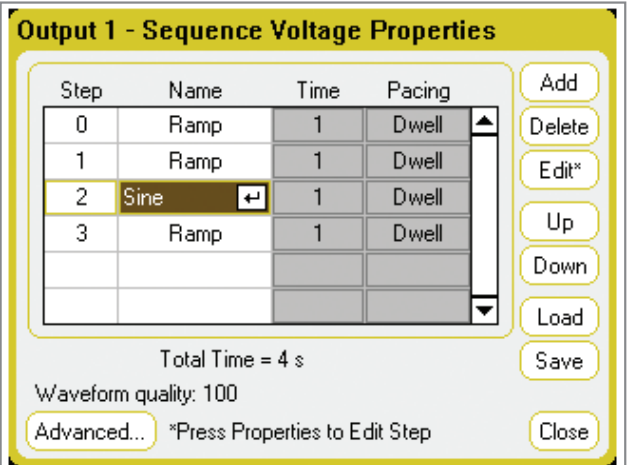

Figure 4B "Add" multiple steps into sequence
3. Press the **Add** waveform button three times to create a total of four steps. Modify steps 0, 1 and 3 to be type "Ramp" and step 2 to be of type "Sine." The Sequence Voltage Properties window should look as shown in Figure 4b.